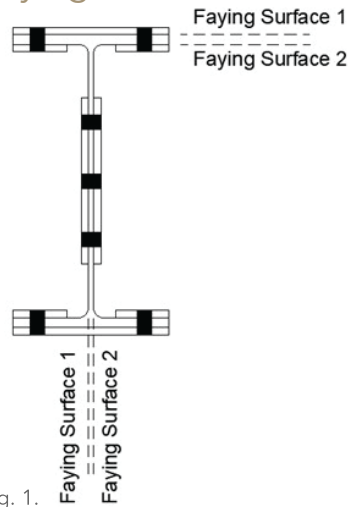

Fig. 1.
**I am confused by note [b] in Table J3.2 in the AISC Specification, which states: "For end-loaded connections with a fastener pattern length greater than 38 in. (950 mm),  $F_{nv}$  shall be reduced to 83.3% of the tabulated values. Fastener pattern length is the maximum distance parallel to the line of force between the centerline of the bolts connecting two parts with one faying surface." In Figure 1, I am designing a connection for a member that is axially loaded with multiple faying surfaces at both flanges and the web locations. Does this mean that the requirement addressed in note [b] is not applicable, since there is more than one faying surface?**